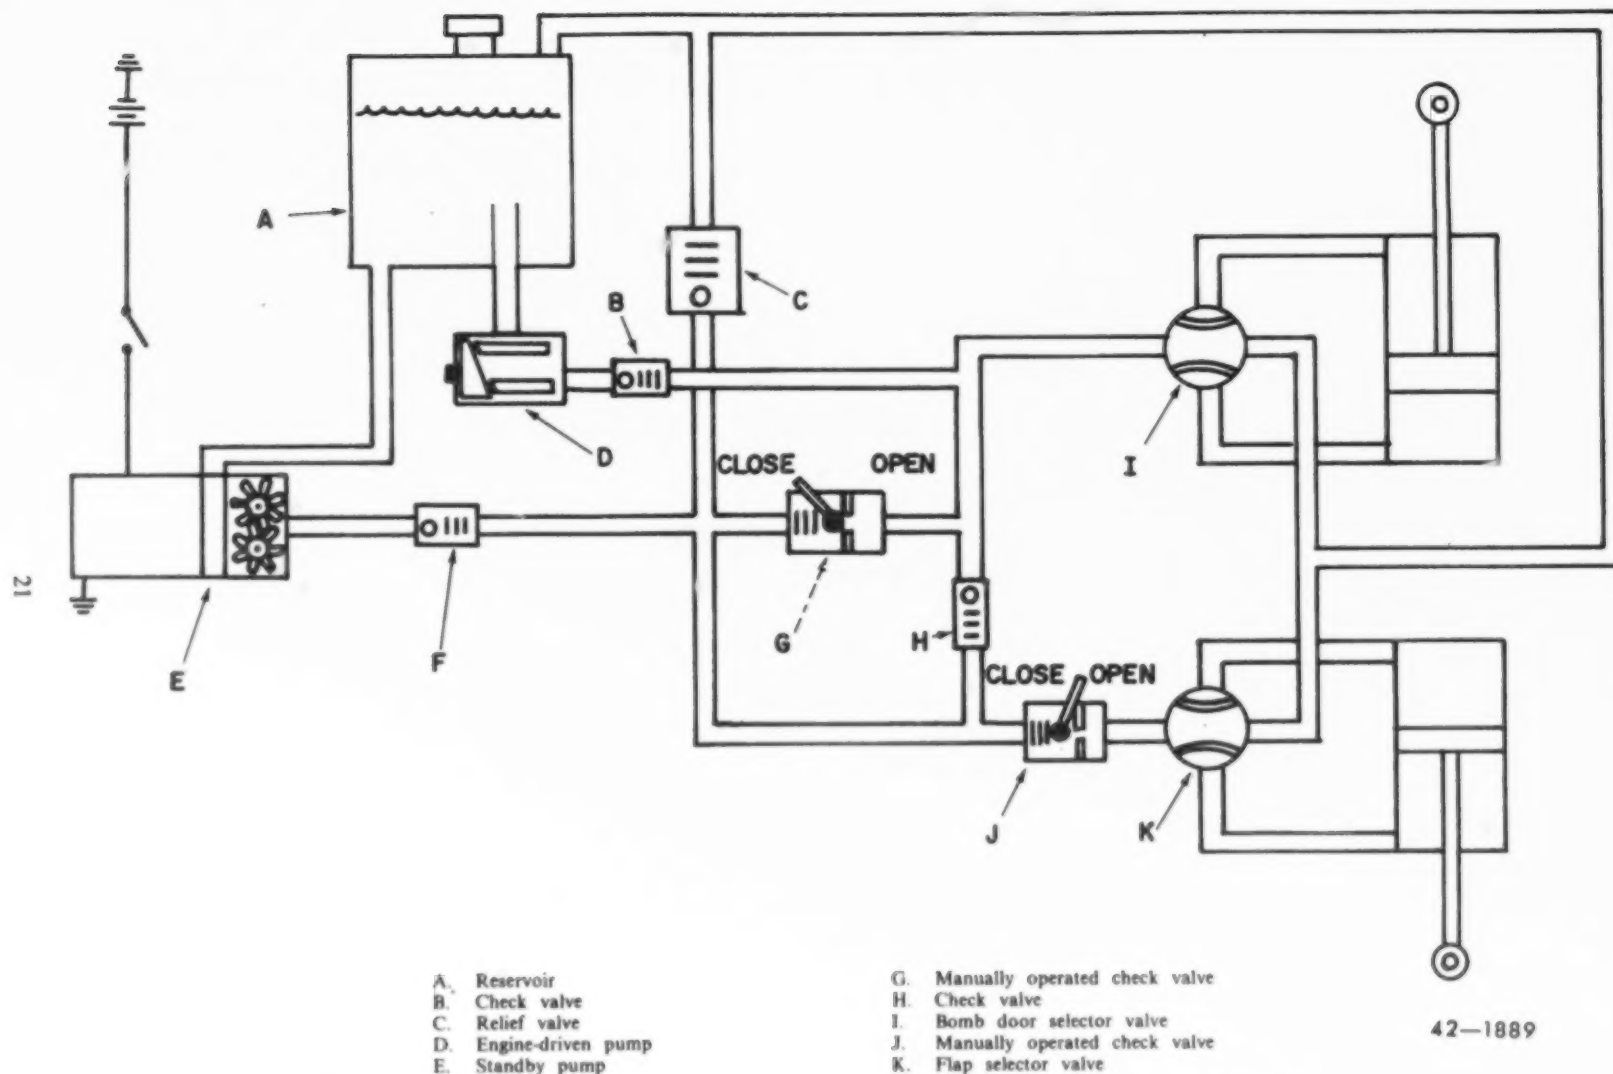

Figure 2-4. Simple hydraulic system with manual check valves.
in figure 2-4. This system has two pumps, one an engine-driven piston pump (D), and the other a motor-operated gear pump (E). Each pump is supplied with fluid from the same reservoir (A). In this case we will show two selector valves, let's say that one is for the bomb doors (I), and the other for the flaps (K). During flight the engine-driven pump (D) draws fluid from the reservoir (A). Fluid flows from the pump through the check valve (B), to the bomb door selector valve (I). Notice also that it flows through the check valve (H), through the normally open manually operated check valve (K), to the flap selector port valve (K). Even though the
4. Which check valve has a ball follower? What is it used for? Using the schematic in figure 2-4, determine in which position you should place the valves to operate or isolate specified systems.
8. What would be the result if check valve (H) were installed backwards, the aircraft engines were shut down, and the motor-operated pump were turned on?